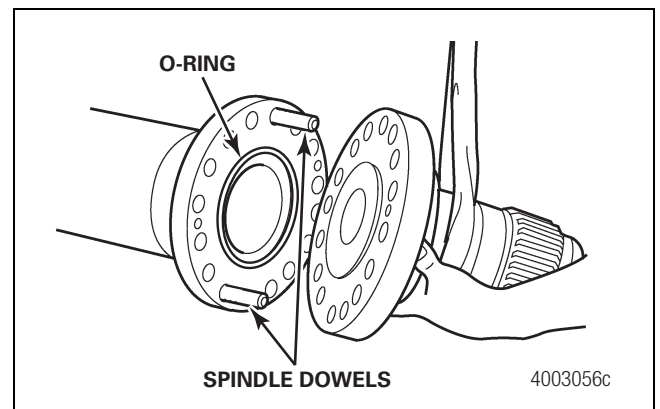

Figure 3.8
10. Use a lifting device to support the spindle. Pull to remove the spindle from the two spindle dowels and set aside. Figure 3.8.
11. Remove the O-ring from the axle housing and discard it. Figure 3.8.